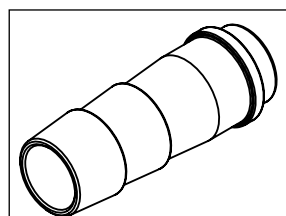

Fig. 2
- Hose olive NW 12 (2 pieces) see Fig. 2